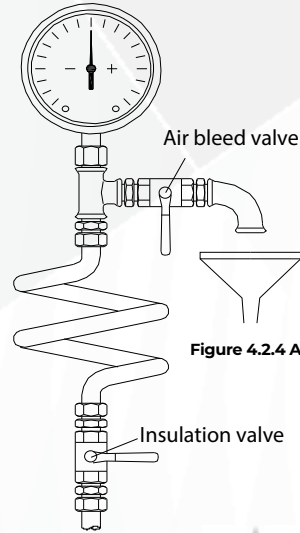

Figure 4.2.4 A
- There are connection points in the suction body of each pump to discharge the pump and to remove the seal leaks in the bearing. (Figure 4.2.4 B) If desired, these connections can be connected to a discharge tank. The pipe used to drain the pump must be equipped with a shut-off valve, and both valve and pipe must be rated for the pump's maximum working pressure.
- Auxiliary piping connections must be properly connected to their designated locations. (Fig. 4.2.4 B)